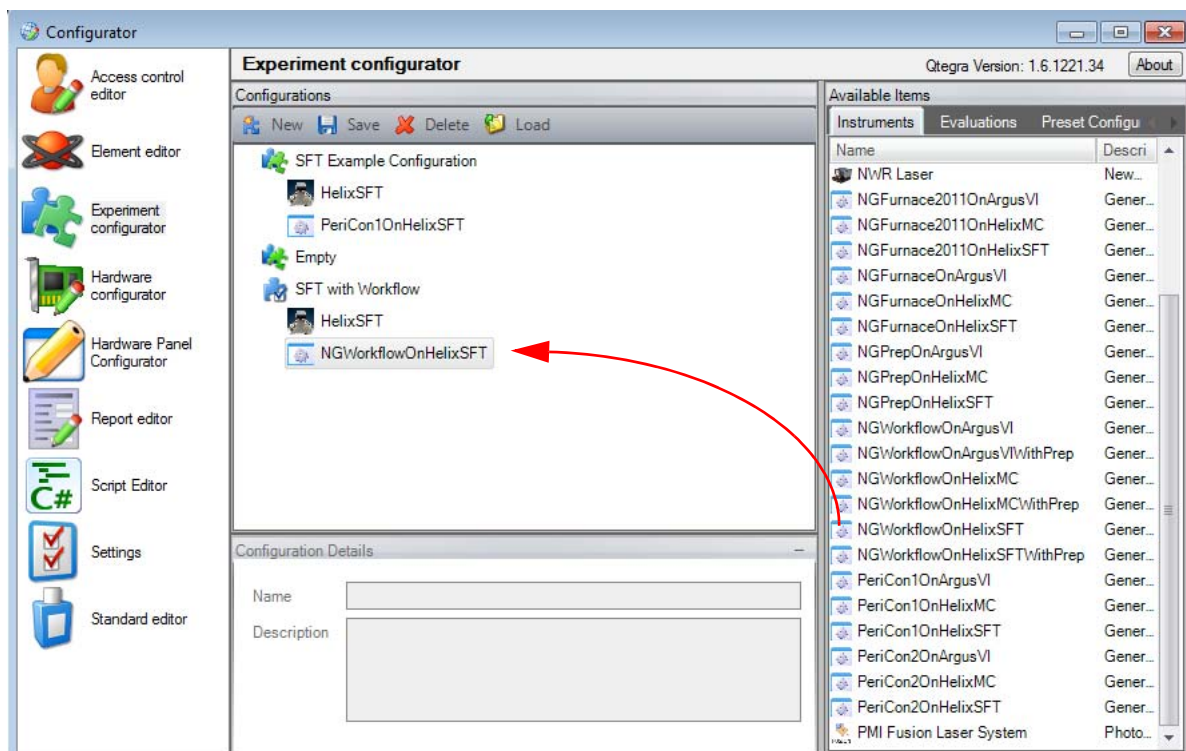

Figure 2-4. New configuration with Workflow item
3. Drag and drop to add both your instrument and the *NGWorkflowOnHelixSFT* from the available instruments items list. See Figure 2-4.